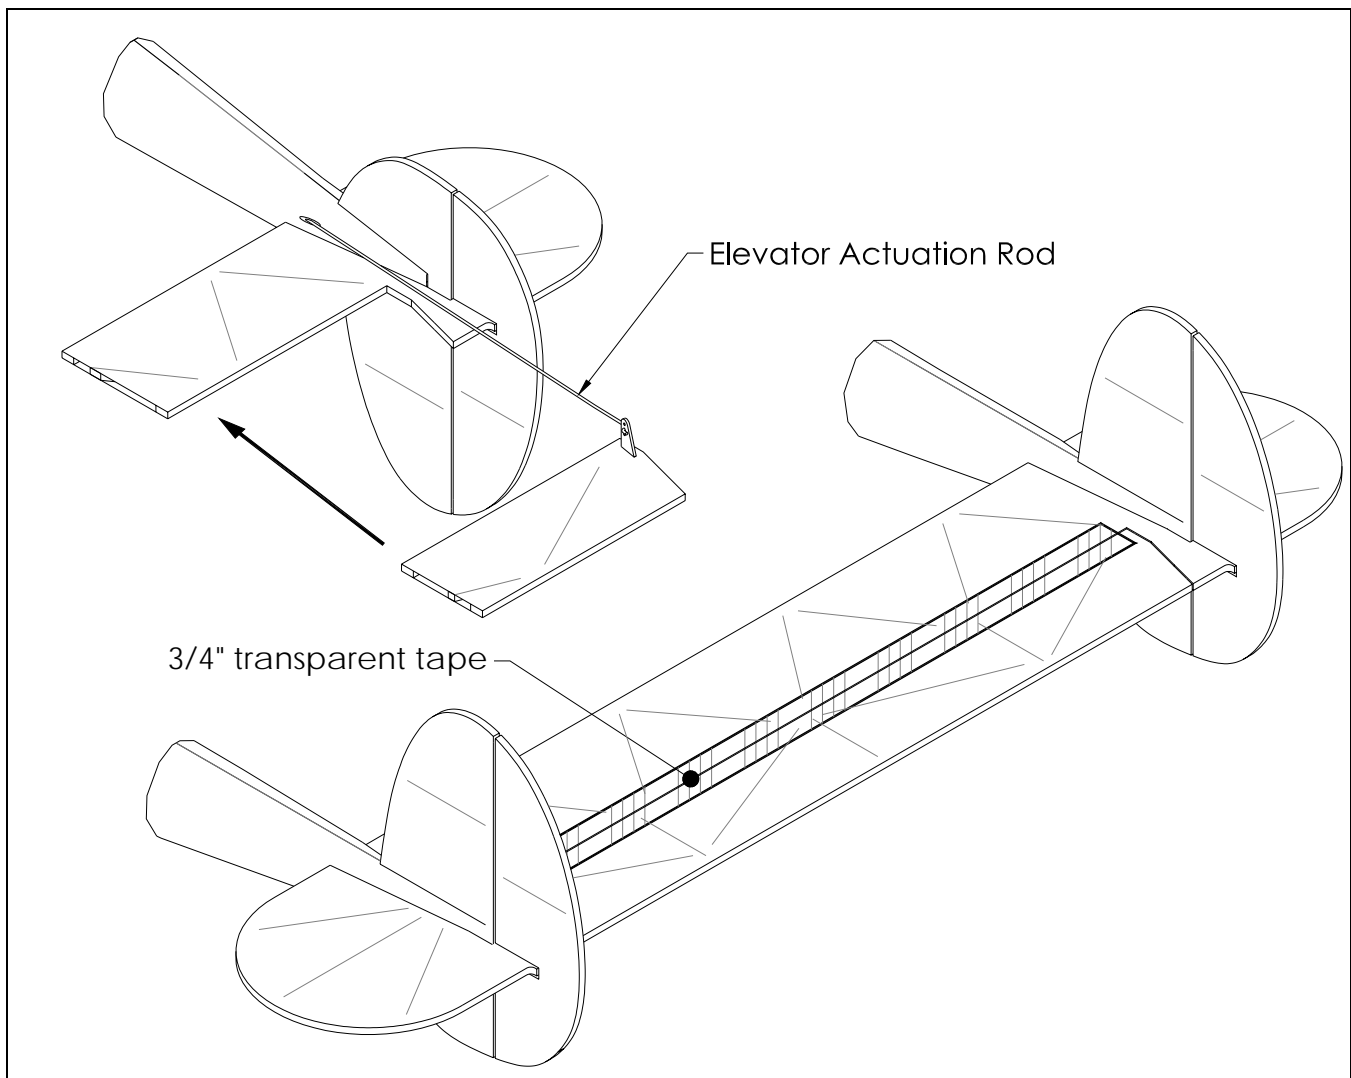

Figure 30
- ❑ Insert the "Z" Bend end of the Elevator Actuation Rod into the elevator control surface horn then slide the elevator actuation rod into the plastic tubing installed in the boom as illustrated in Figure 30. Be sure to continue to slide the elevator actuation rod through the micro connector in the elevator servo and tighten the setscrew with the elevator lined up with the horizontal stabilizer.
- ❑ Tape the elevator to its proper location making sure to leave a 1/32" to 1/16" gap on the hinge side to allow for rotation as illustrated in Figure 30. Make sure that the elevator fits into its opening without rubbing on adjacent surfaces.